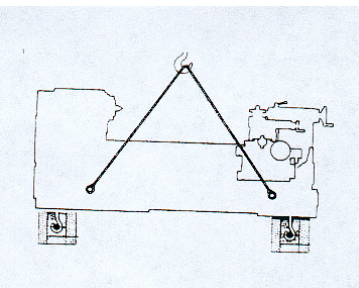

fig.93
- **NEVER** employ the crane to maintain elements held to the ground in tension (fig.93).